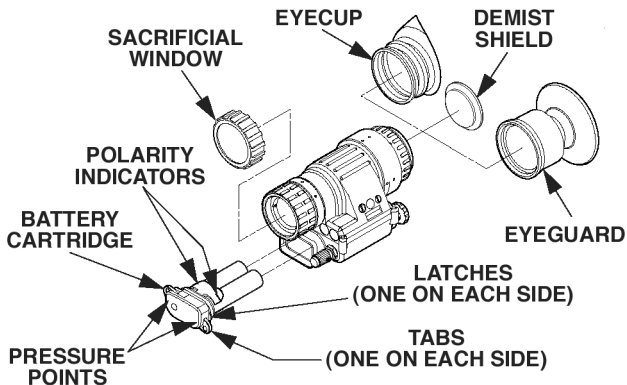

Figure 2-8. Battery, Eyecup and Eyeguard Installation.
(1) Remove the battery cartridge by squeezing the two tabs together and pulling out.
(2) Observe polarity, as indicated on the inside of the battery cartridge, and insert the batteries into battery cartridge (Figure 2-8). In addition, some battery cartridges have a bubble molded into the top to show the + for proper orientation of the batteries.
Perform the following procedure to install eyecup or eyeguard onto the monocular. Refer to Figure 2-8.
Perform the following procedures to install the demist shield on the eyepiece lens. Refer to Figure 2-8.
Perform the following procedure to install the sacrificial window. Refer to Figure 2-8.